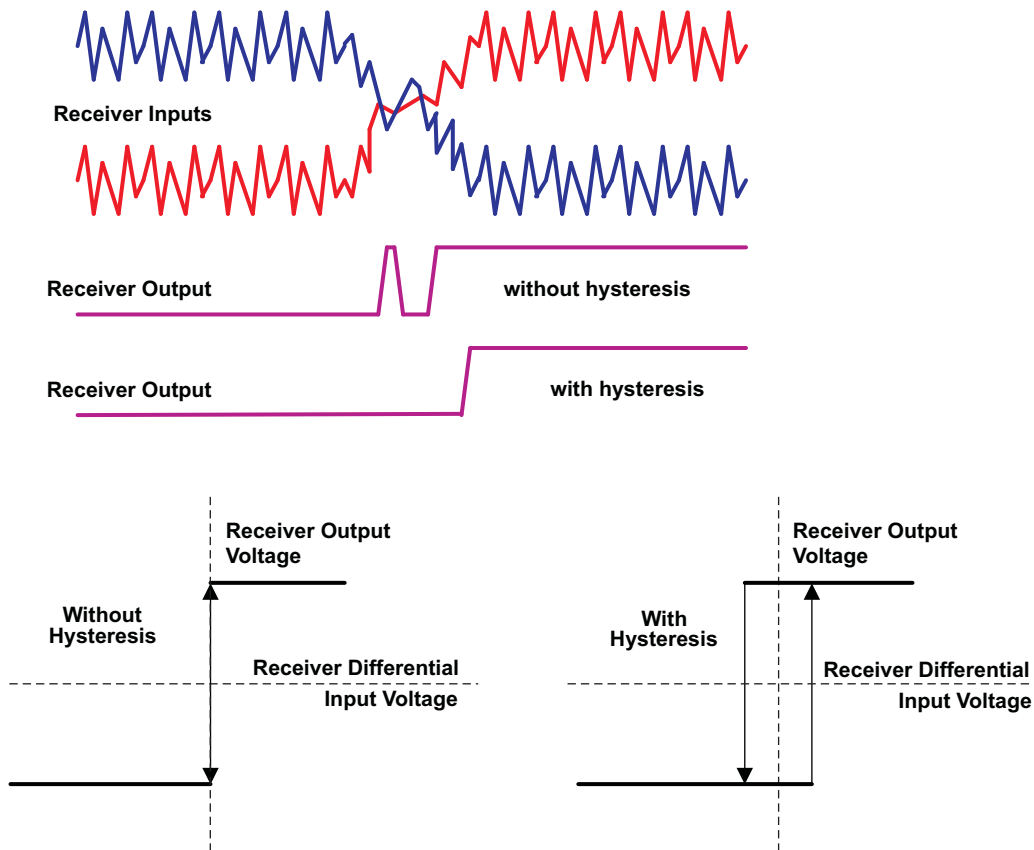

Figure 1. Receiver Hysteresis Improves Noise Immunity
In order for a differential receiver to meet RS-485 requirements, it must compare the voltages on the A and B inputs, and output a specific logic state (conventionally a logic HIGH) if the differential voltage ( $V_A - V_B$ ) is greater than +200 mV. This is defined as the ON (or binary 0) state by the RS-485 standard. The receiver must output the complementary state (conventionally a logic LOW) if the differential voltage is more negative than -200 mV. This is defined as the OFF (or binary 1) state by the RS-485 standard (1). These requirements apply across a common-mode input range of -7 V to 12 V. The standard further suggests, but does not require, that receiver hysteresis be implemented to prevent “instability or oscillatory conditions in the receiver device”. Most manufacturers include receiver hysteresis in their RS-485 devices. The effect of receiver hysteresis is illustrated in Figure 1.